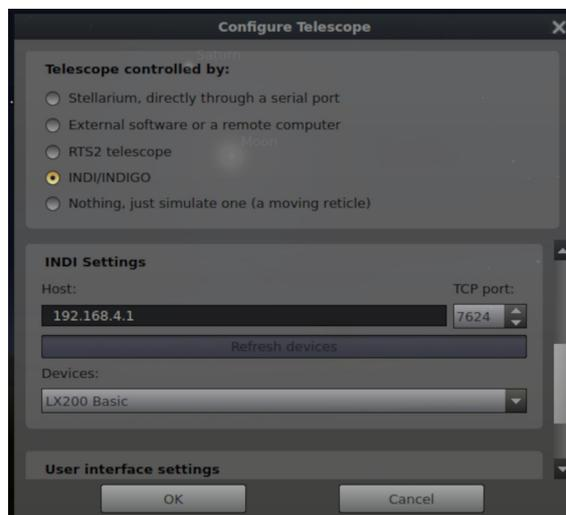

Figure 12: Set the proper IP address of Blue Lizard, set the port to **7624**, and connect to the INDI server.
- Scroll down in the *Telescope properties* subdialogue and select the IP address of the host running the INDI server (that is actually Blue Lizard) to 192.168.4.1 (or whatever the IP Address of Blue Lizard is). Set the *Port* to 7624 – that is the default port used by INDI. If you push the *Refresh devices* button, you will see that a connection to an INDI server running the *LX200 Basic* protocol is established. Now you can close these dialogues. See also Fig. 12.